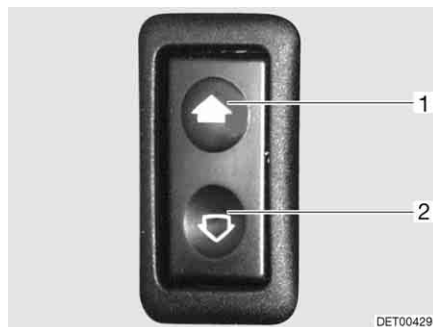

Fig. 20 Switch for electrical window winders
- Opening:* ■ Press lower part of the switch (Fig. 20,2).
- Closing:* ■ Press upper part of the switch (Fig. 20,1).